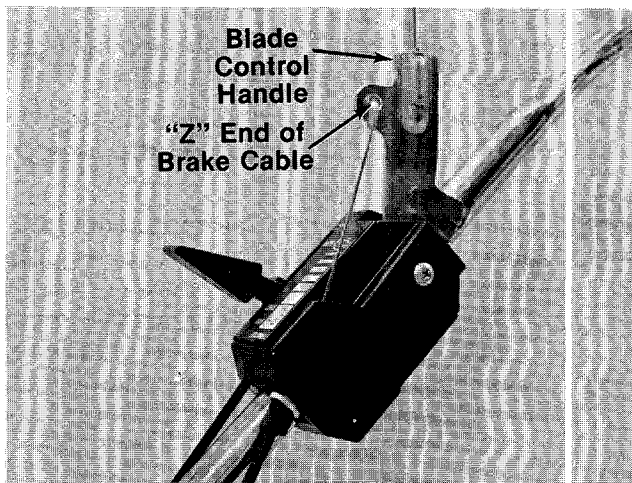

FIGURE 7.
10. Snap the plastic fitting on the end of the cable into the control housing. Hook the "Z" end of the brake cable into the hole in the blade control handle. See figure 7. If additional slack is needed in order to hook the cable into the handle, proceed as follows.